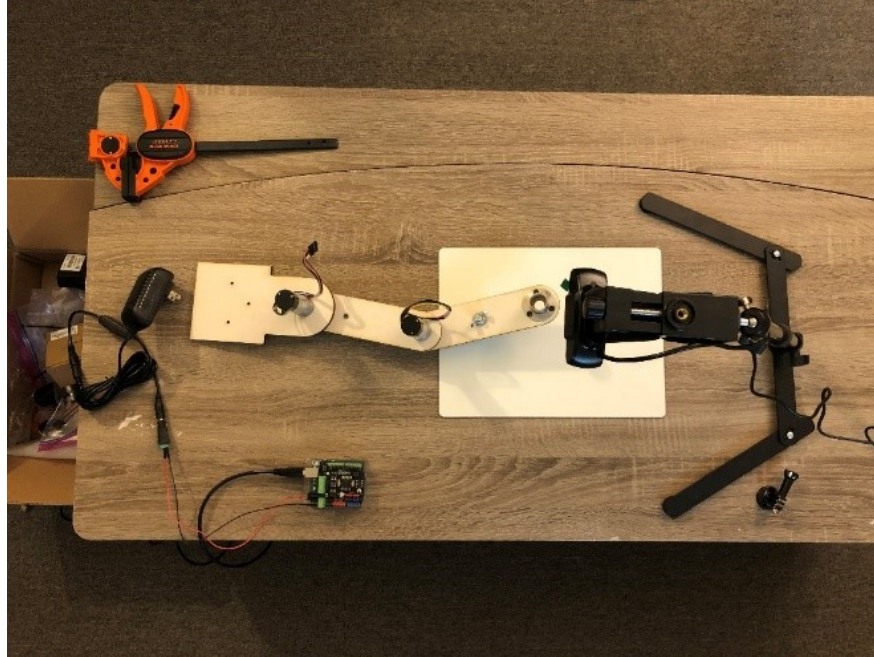

Figure 1: Overhead view of the assembled kit.
This week, we'll be assembling the 2-link robot arm and wiring up the system (Figure 1). You will also run some provided Arduino code, to confirm that everything has been properly connected. The code that we'll be using for the class can be found in the Lab 2 GitHub: [https://github.com/mit212/lab2\\_2023](https://github.com/mit212/lab2_2023).
3. Straighten each of the robot's link out, as shown in Figure 1. This is the "home position"